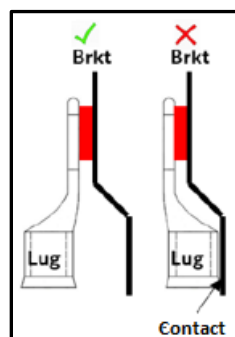

Fig. 2, Cable Ring Eye Orientation
3. Inspect for corrosion and proper orientation of the (two) cable ends that terminate at the positive battery jumpstart post. The cable ends must mount with the flat portion of the ring eye facing the frame on both cables with no additional contact to the mounting bracket. Inspect for signs of melting or thermal instances. See **Fig. 2**.